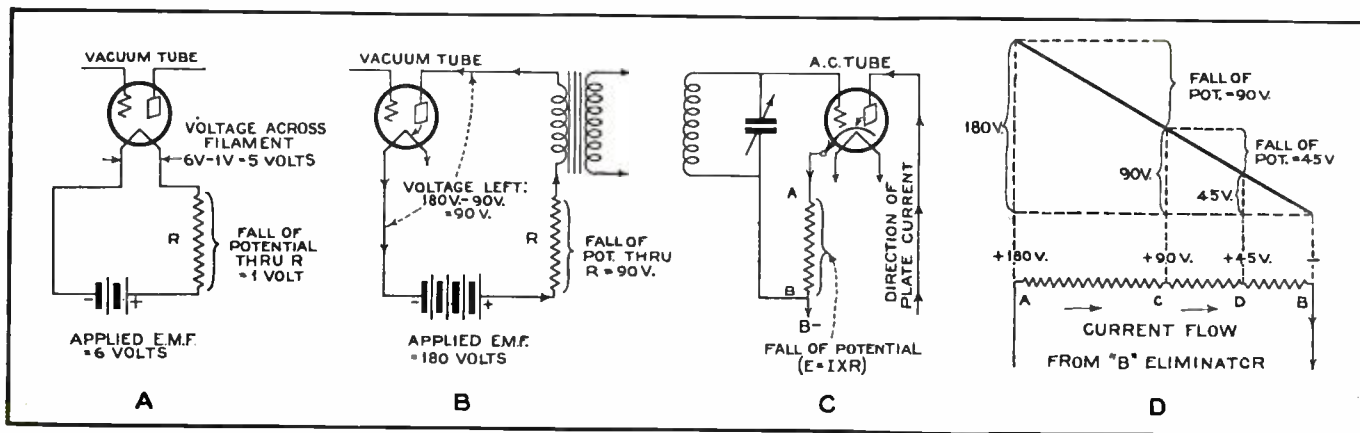

FIGURE 1. EXAMPLES OF FALL OF POTENTIAL ALONG A RESISTANCE
through a resistance there must be a difference of electrical potential (p.d.) or pressure between the ends of that resistance tending to make the current (electrons) flow through it. This difference of potential is equal to the product of the current in amperes times the resistance in ohms. In practice, when a source of e.m.f. is applied to a circuit containing resistances, the part of the e.m.f. used up in sending the current through each resistance is called the "voltage drop" or "fall of potential" through that resistance. Both of these expressions are commonly used. In some devices the voltage drop occurring in resistance is made use of to reduce voltages which may be too high, as in the case of filament and plate circuit resistors in vacuum tube circuits as shown in (A) and (B) of Figure 1. In other cases the current is made to flow through a resistance purposely in order to create a difference of potential for some definite use as in the case of C bias resistors in electric radio receivers, shown in (C) of Figure 1. As the current flows from A to B through the resistance, there is a fall of potential from A to B. Therefore point B is at a lower potential than point A. That is, B is negative with respect to A. In other cases, the voltage drop in resistors is objectionable, and is kept low by keeping the resistance of the circuit as low as possible. It is the *pressure* and not the *current* that is used up in maintaining a flow of electricity (electrons) through a circuit.
The end to which the current flows is at a lower electrical potential (—) than the end from which it flows (+). This condition is shown in (D) of Figure 1 which represents an output-divider resistance employed in B eliminators used in electric radio receivers. This is made up of several resistors connected as shown, or else a single resistor with taps taken off the resistance wire at various places. The current flows out